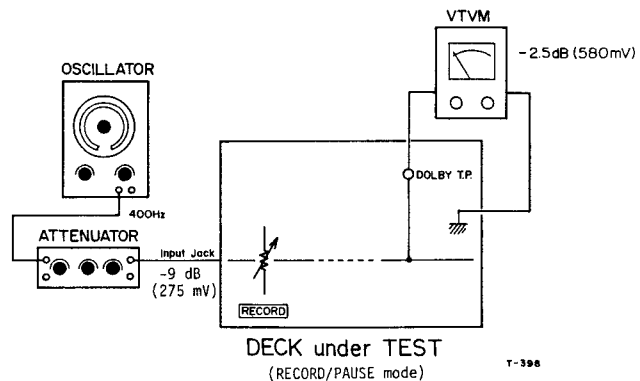

Fig. 10-3 SPECIFIED INPUT LEVEL
2. Apply a 400 Hz, -9dB signal to the LINE IN jacks and select the REC/PAUSE mode. Fig. 10-3.